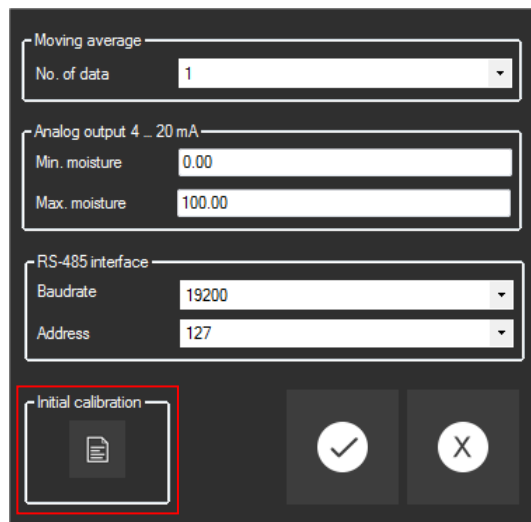

Fig. 48 Configuration electronic unit
- 2) Open menu *Configuration electronic unit* (see Fig. 48) with the button  of the main navigation bar